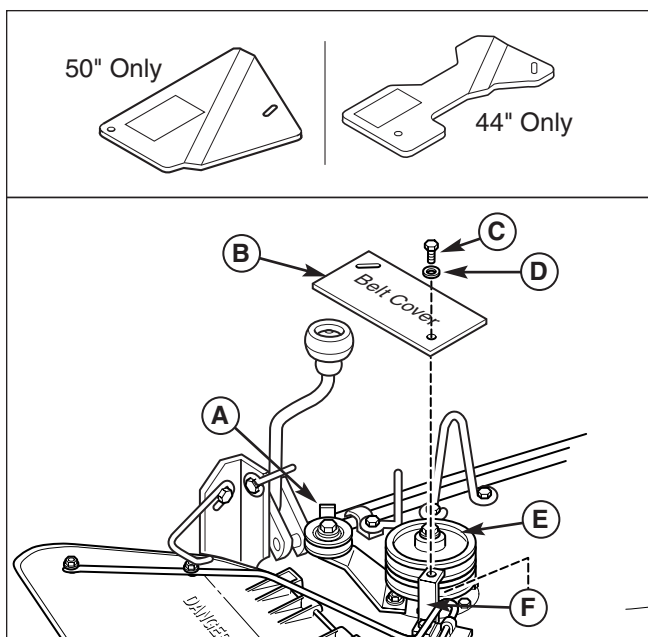

Figure 23. Install Belt Cover Plate
10. **44 and 50" Models** - Attach the belt cover (B, Figure 23) to support bracket (E) securing with 5/16-18 x 1 capscrew (C), washer (D) and 5/16-18 nut.
- Use cover plate (A, Figure 23) as a template to drill six 13/64" holes (C) on grass catcher cover (B) as shown.